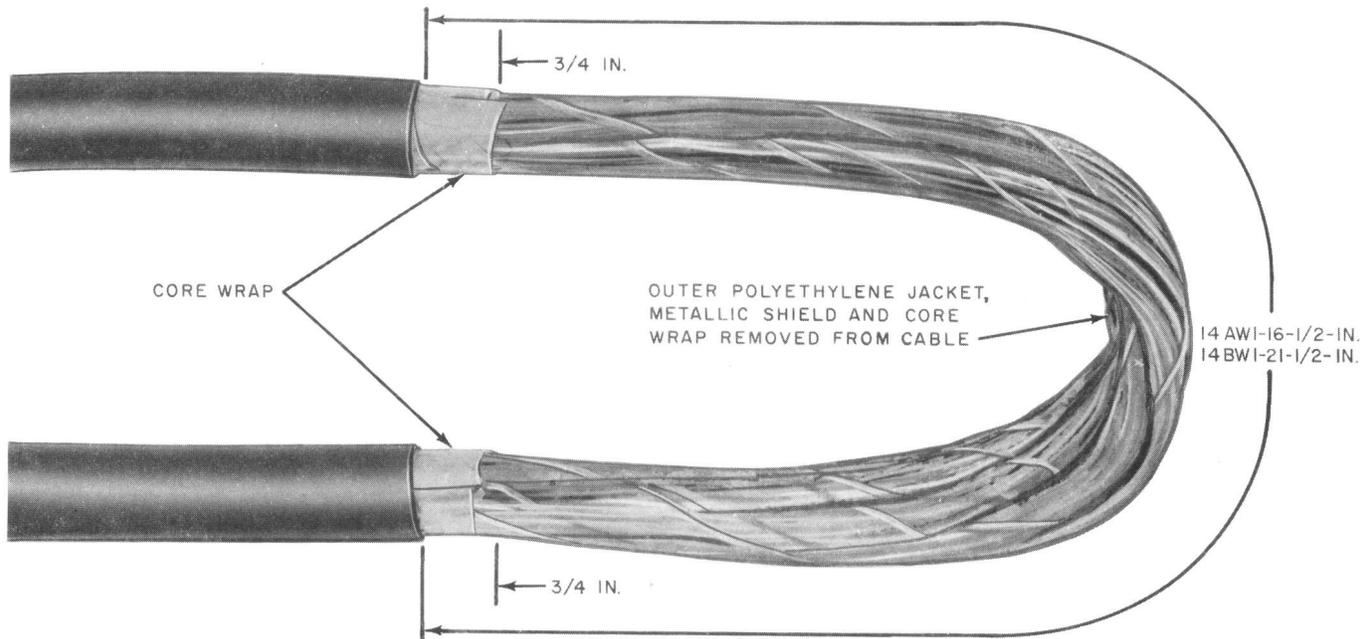

Fig. 19—Prepared Cable
- 4.01 Prepare the cable sheath as shown in Fig. 19.